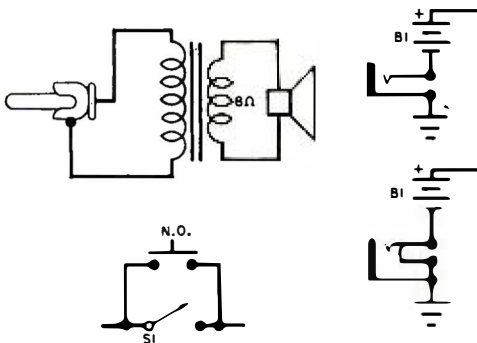

Fig. 5. Simple modifications you can make to extend the utility of the "Square Deal." See text below.
**Modifications.** If you add a phone jack in series with the battery, you can turn the multivibrator on and off with almost any switching device, for use in a code practice rig, annunciator, burglar alarm, or to make tone-burst tests (see Fig. 5). If you use a non-shortening type jack, the circuit will work only when the key, switch, thermostat, etc., is plugged in and completes the circuit. However, if a shortening-type jack is used, the circuit will work both ways.